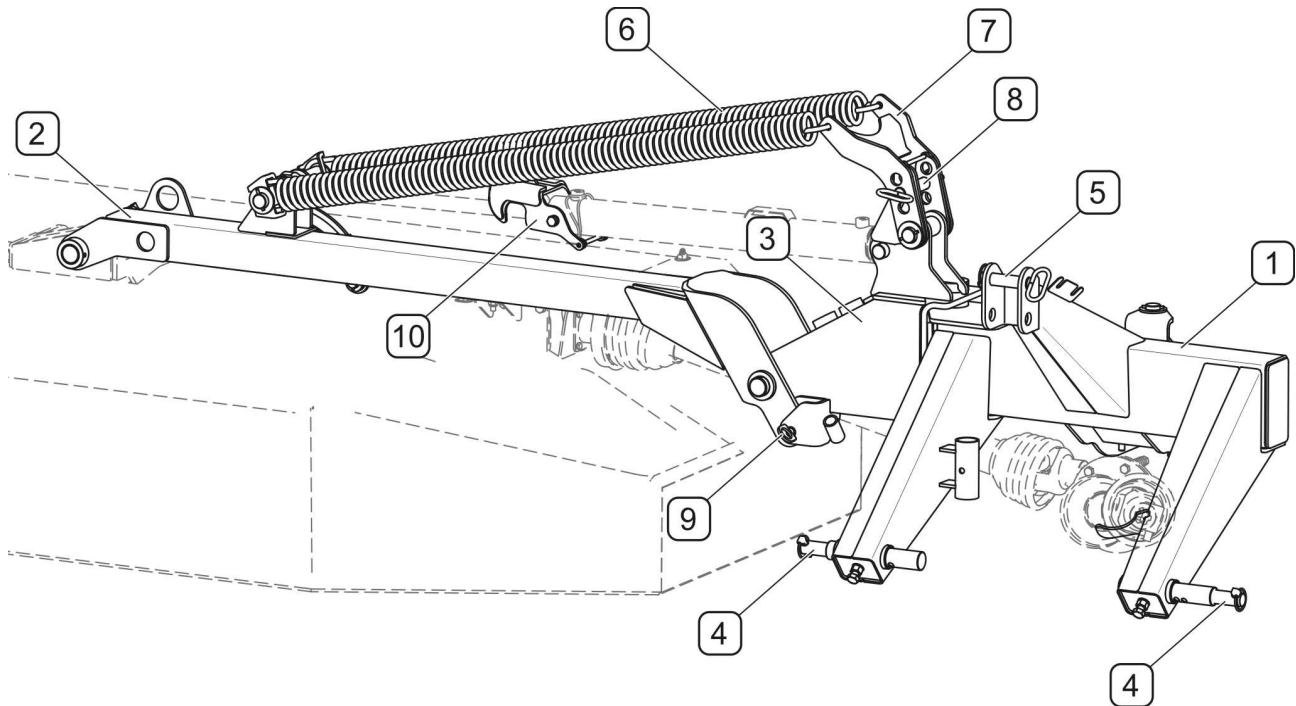

FIG. 3.2A PDT250 mower linkage
(1)- three-point linkage frame; (2)- lifting arm; (3)- moving arm; (4)- three-point linkage lower hitching eye pin; (5)- central connection pin; (6)- stay springs; (7)- spring catch; (8)- spring tensioning pin; (9)- lifting arm interlock pin; (10)- cylinder lock
The main element of the *PDD810* mower linkage (FIG. 3.2A) is the three-point linkage frame (1), equipped with two lower pins (4) and upper pin (5) for connection to the tractor's rear three point linkage. Moving arm (3) allows the cutting unit to swing backwards. Lifting arm (2) raises the cutting unit. To relieve the cutting unit, springs (6) are used, whose tension can be adjusted by changing the positioning of the pin (8). Using the pin (9) lifting arm can be interlocked (2) when mower is disconnected from the tractor.